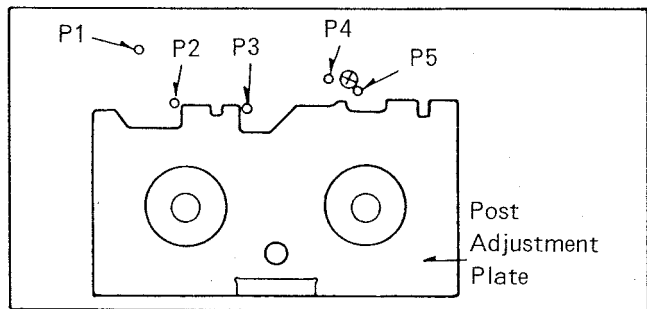

Fig. M1
2. Place the Post Adjustment Plate over the reel tables. (Fig. M1)